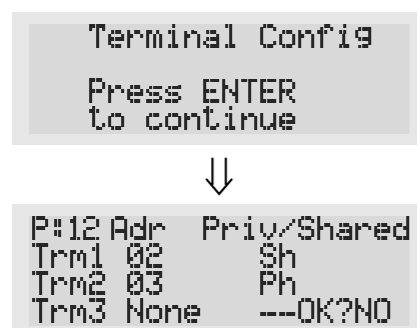

Fig. 5
- 再次按下↓键，依次将显示如图5的内容；
- pressing ↓ again displays the screens shown in Fig. 5, in sequence;